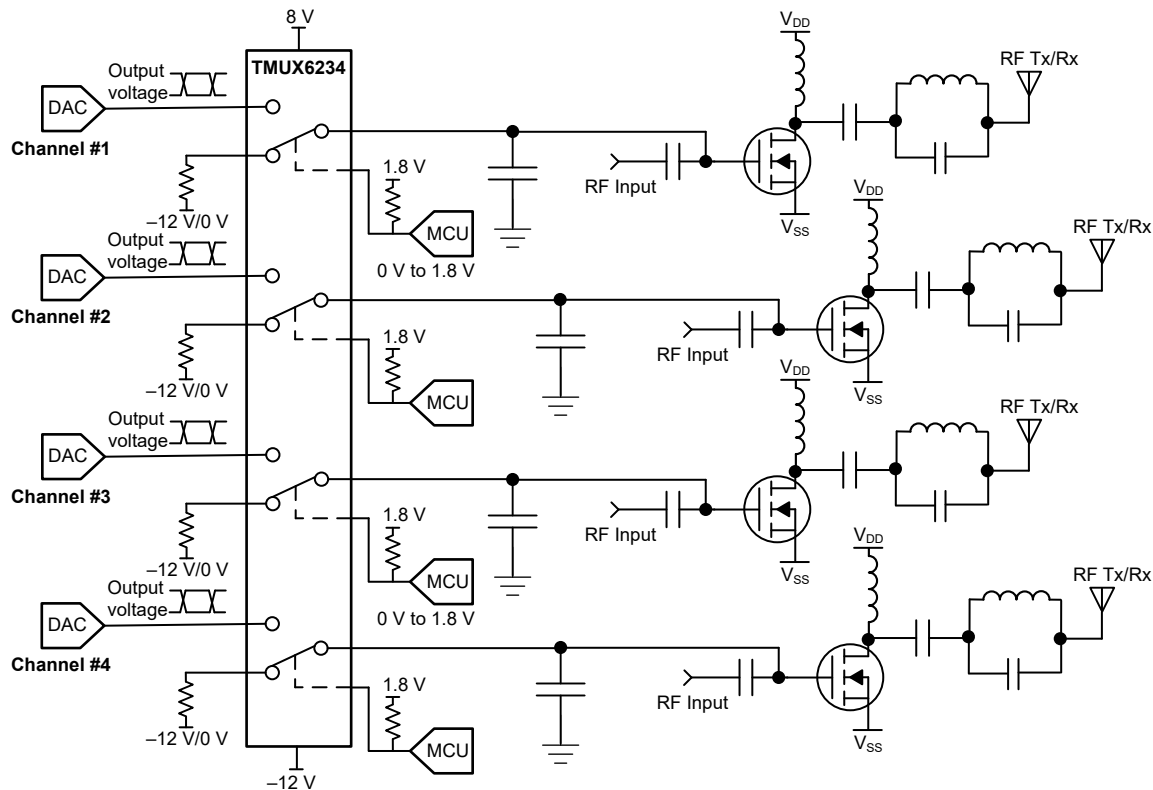

图 8-1. Power Amplifier Gate Driver
图 8-1 shows the TMUX6234 configured for control of a multi-channel power amplifier application.
The application shown in 图 8-1 demonstrates how to toggle between the DAC output and a low signal voltage for control of a power amplifier. A device such as the TMUX6234 that supports multiple supply voltage combinations allows the system designer to use a single switch across platforms with different power amplifier topologies such as GaN or LDMOS implementations. Using a multi-channel switch like the TMUX6234 allows the system to improve density by implementing a smaller solution size. Multiple channels of the TMUX6234 can be utilized to switch additional stages of a single power amplifier channel. Or multiple channel switches can be used on different power amplifier stages in high channel count communications equipment such as a 32 transmit (TX), 32 receive (RX) active antenna system mMIMO (AAS). Each channel of the TMUX6234 has independent control signals allowing for overall system flexibility. The DAC output is utilized to bias the gate of the power amplifier and can be disconnected from the circuit using the select pins of the switch or the global enable pin. The TMUX6234 can support 1.8 V logic signals on the control input, allowing the device to interface with low logic controls of an FPGA or MCU. All inputs to the switch must fall within the recommended operating conditions of the TMUX6234 including signal range and continuous current. For this design with a positive supply of 8 V on V_{DD} , and negative supply of -12 V on V_{SS} , the signal range can be 8 V to -12 V. The maximum continuous current (I_{DC}) is captured in the *Recommended Operating Conditions* table for a range of supply voltage cases.